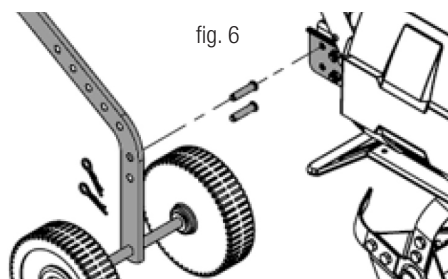

fig. 6
1. Mount the support wheels with the cotter pin and cotter pin. fig. 6.